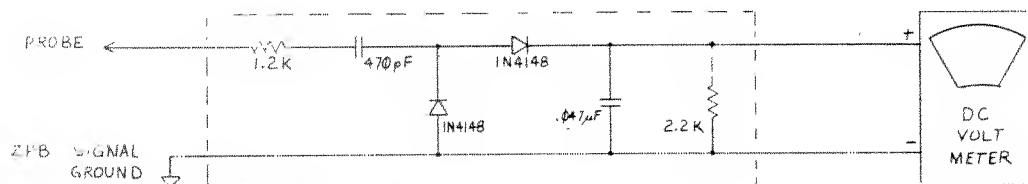

FIGURE 1C: A.C. SIGNAL DETECTOR
4. Construct the "probe" shown in figure 1C on a piece of cardboard or perf-board. This probe converts high frequency signals to DC signals. The voltage of the resulting DC signal will be proportional to the duty factor of the tested wave form.